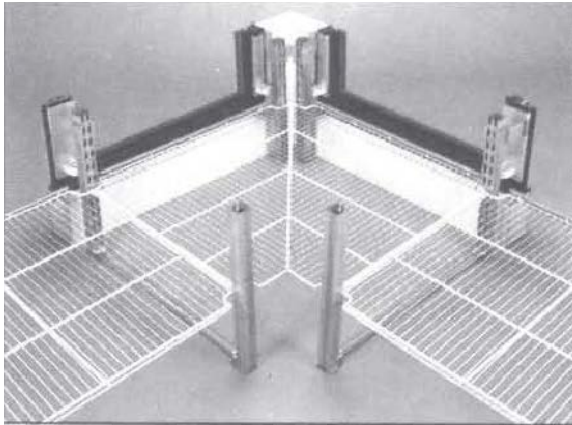

Figure 7
2. Corner shelving as a rule is used between an "L" shaped walk-in with the doors on the outside of the "L". Refer to Figure 7.